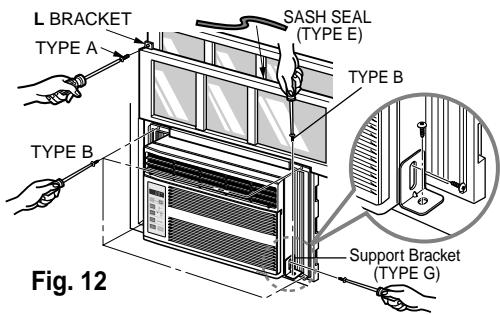

**Fig. 11**
- b. While steadyng the air conditioner, carefully bring the window sash down behind the upper guide of the air conditioner, as shown in Fig. 11.